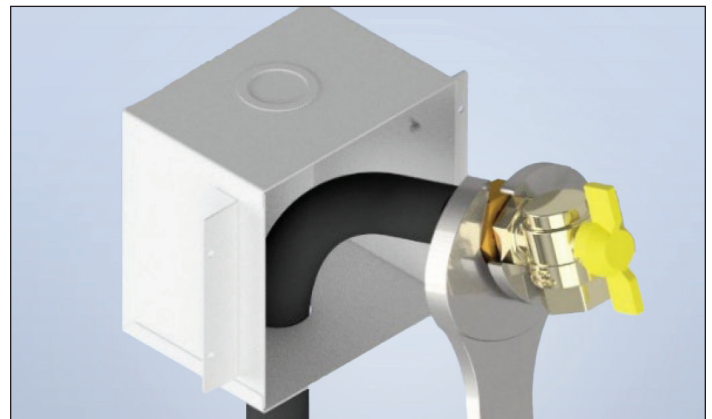

Figure: 1-7
7. Thread the 90-Degree Ball Valve into the Nut. Tighten the **TracPipe** System fitting to the torque values listed in Table 2, ensuring that the valve outlet faces forward when finished tightening. Note that **TracPipe** System fitting is designed to form a leak tight seal on the stainless steel tubing as the fitting is tightened. (Figure 1-7).